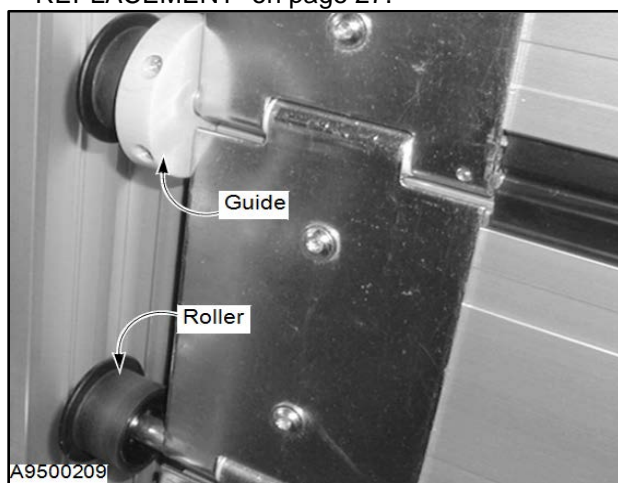

Figure 37
6. Inspect for damaged or worn rollers and guides. Replace as needed. (See Figure 37.)